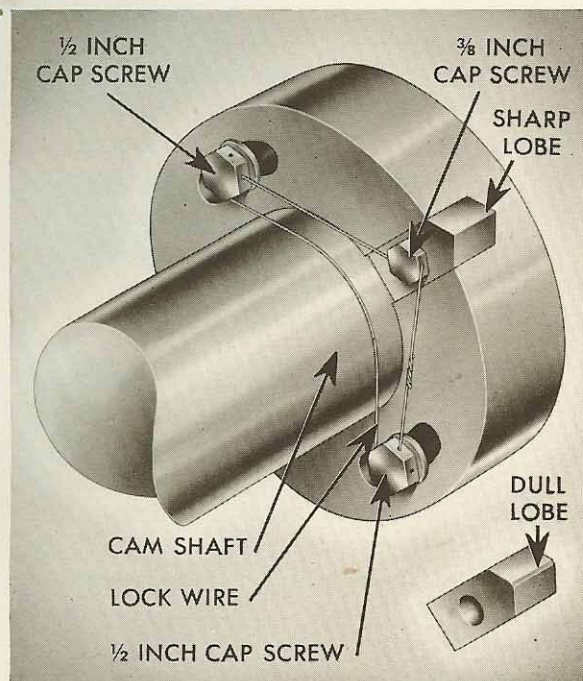

FIGURE 17-15
12. EXAMINATION OF FUEL CAM LOBES: Cam lobes gradually wear down until the points are dulled as shown in Figure 17-15. Their replacement is governed by the same rule that applied to the renewing of spray valve springs. One sharp lobe among five dull ones will be more troublesome than all dull lobes providing the dull ones are all worn down equal. It is a good rule to replace all cam lobes rather than one or two.
13. REPLACEMENT OF FUEL CAM LOBES: Cut and remove the locking wire shown in Figure 17-15. Remove the three-eighths inch cap screw and pry out the lobe. Insert the new lobe, screw in the cap screw and tighten lightly. Drive the lobe well down into the slot with a two or three pound hammer and a bronze or brass drift. Tighten the